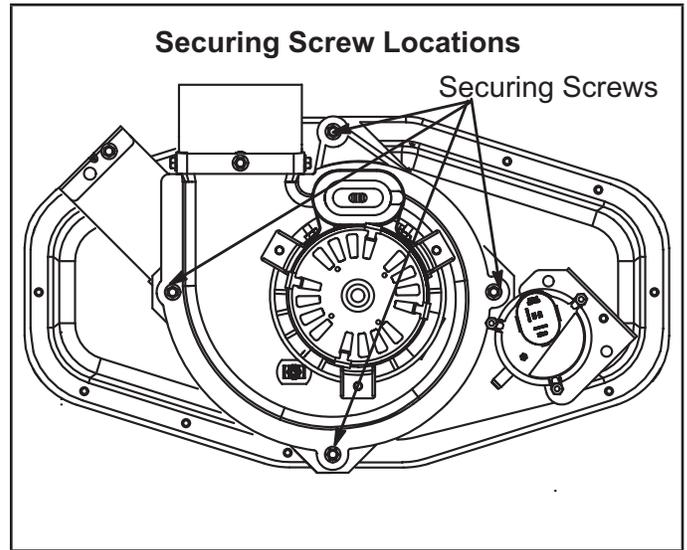

FIGURE 2
- 5 - Remove the four securing screws (figure 2) that secure the combustion air inducer to the flue collector box. Remove the inducer from the furnace.